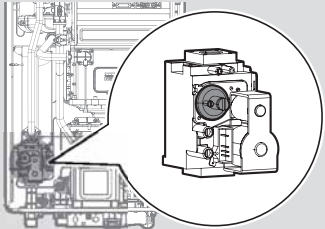

Figure 10
- c. Fully open a hot water fixture and set the water heater to operate at 1-stage MIN mode (refer to page 8). Measure the offset value at low fire and compare it to the values in Table 3. If the offset value is out of range, the gas valve set screw will need to be adjusted. If adjustment is necessary, locate the set screw as shown in Figure 10. Using a ⁵/₃₂ in or 4 mm Allen wrench, turn the set screw no more than ¹/₄ turn clockwise to raise or counterclockwise to lower the offset value.